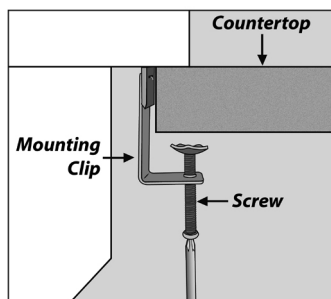

Figure 5
9. Position the bottom of the mounting clip so that it is gripping the countertop. Use a screwdriver to tighten the screws until the mounting clip is snug against the countertop (Figure 5).